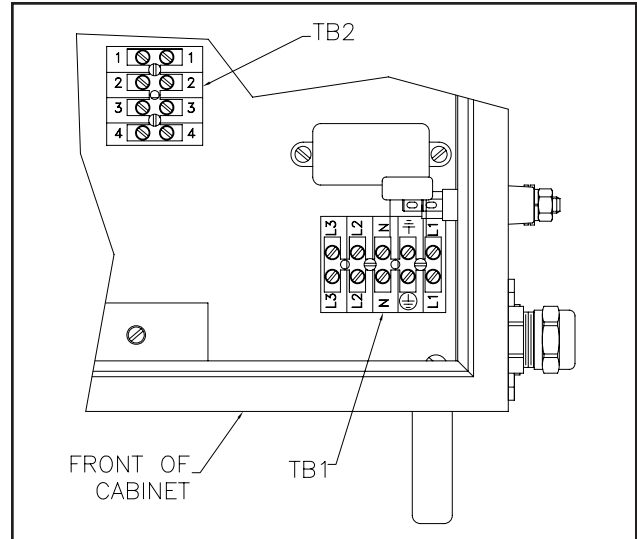

Figure 16a: Location of TB1 and TB2 In Power Supply
1. **Ensure the AC line cord is unplugged** and remove the AC inlet receptacle wiring from TB1-N, TB1-L1 and TB1-EARTH GROUND (see Figures 16a and 16b).
A set of relay contacts for high voltage (CR1) and fault (CR2) conditions is provided at TB2-4 and TB2-2 (see Figure 16a). One end of these relay contacts are connected together and also connected to a source input terminal at TB2-3 (see Figure 16a). When a source voltage is present at TB2-3 and either the high voltage is on or a fault condition occurs, the source voltage will become available at the output end of the corresponding contact. Maximum contact ratings are as follows: